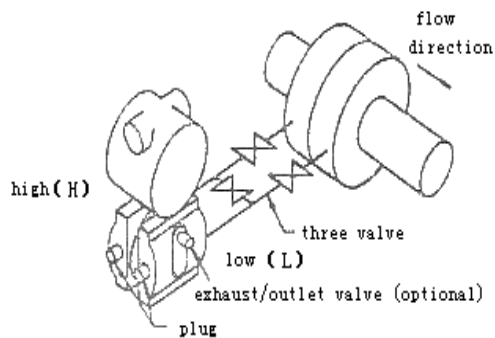

Figure 2-4 Installation for liquid medium connection
**Liquid:** The pressure port must be selected on side of the flow pipe to avoid slag deposition. Smart transmitter should be installed under the pressure port, so that the gas can be drained into flow pipe. As shown in Figure 2-4.